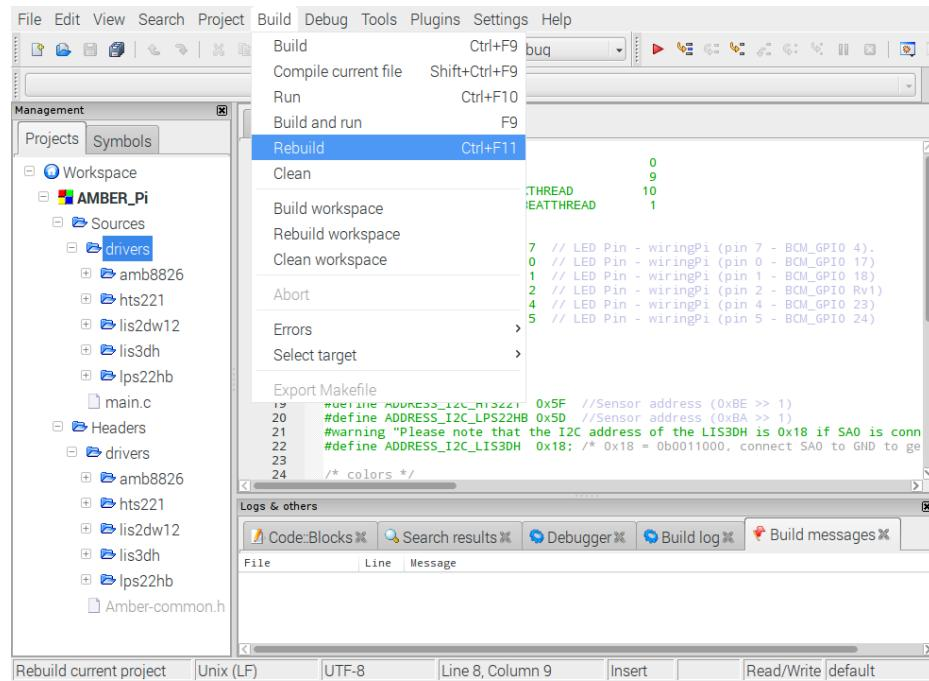

Figure 12: Rebuild the application
7. Then press **Build → Rebuild** to build the project (see figure 12).